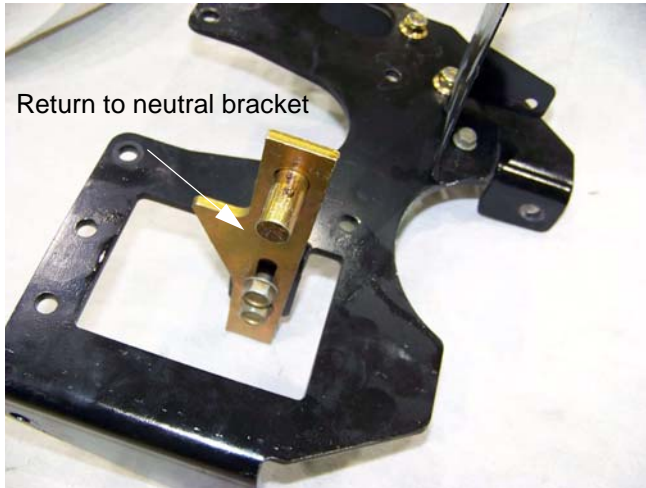

Figure 5.40
13. Inspect the return to neutral bracket assembly. If the return to neutral bracket shows sign of wear or damage, it must be replaced. See Figure 5.40.